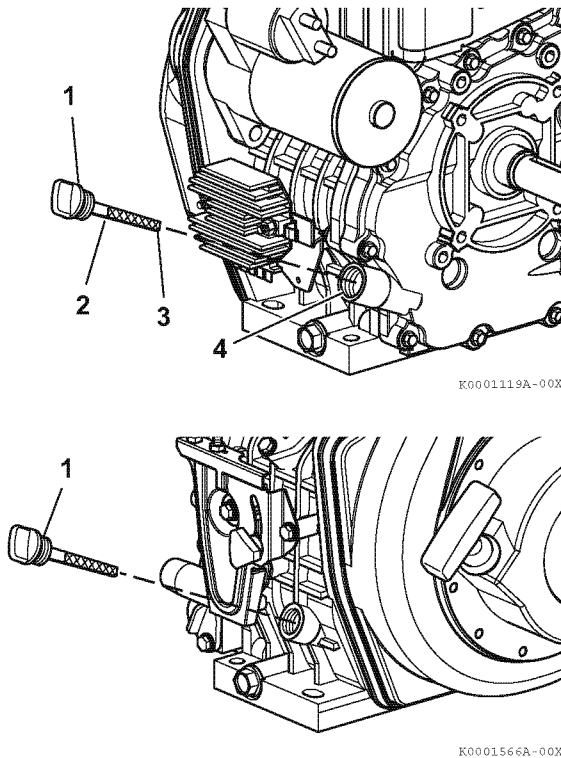

Figure 5
10. Add engine oil (4, **Figure 5**) as needed until the level is between the upper (2, **Figure 5**) and lower lines (3, **Figure 5**) on the oil cap/dipstick (1, **Figure 5**).
11. Replace the oil cap/dipstick (1, **Figure 5**) and tighten by hand. Over-tightening may damage the cap. If any engine oil is spilled, wipe it away with a clean cloth.